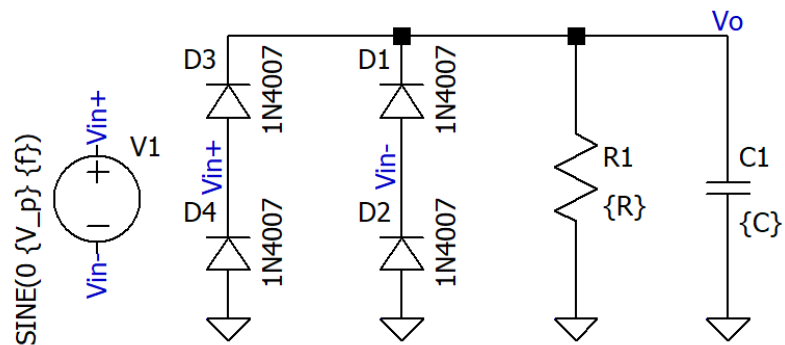

Figure 4.2 FWR with capacitive load
1. Connect the Circuit as shown in Figure 4.2.